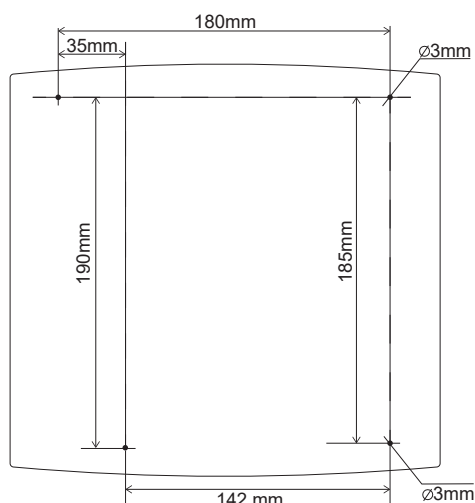

Figure 3-5: Wiring centre fixing centres
1. Drill and fit 2 mounting points for the mounting holes provided on the upper Section of the back of the wiring centre. (Refer to Figure 3-5).
3. Remove wiring centre lower front cover (via 2 screws) and mark position of lower 2 holes. (Refer to Figure 3-5)